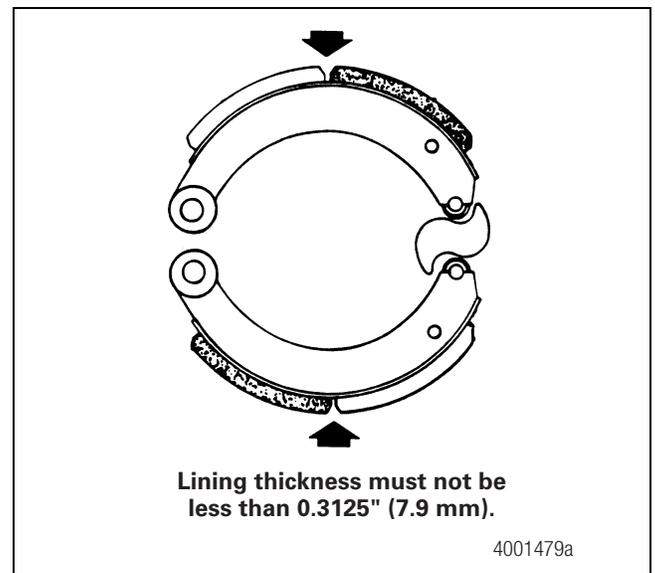

Figure 5.9
- Check the brake lining. Figure 5.9. Brake lining thickness must be the same on both brake shoes and on both axle brakes.